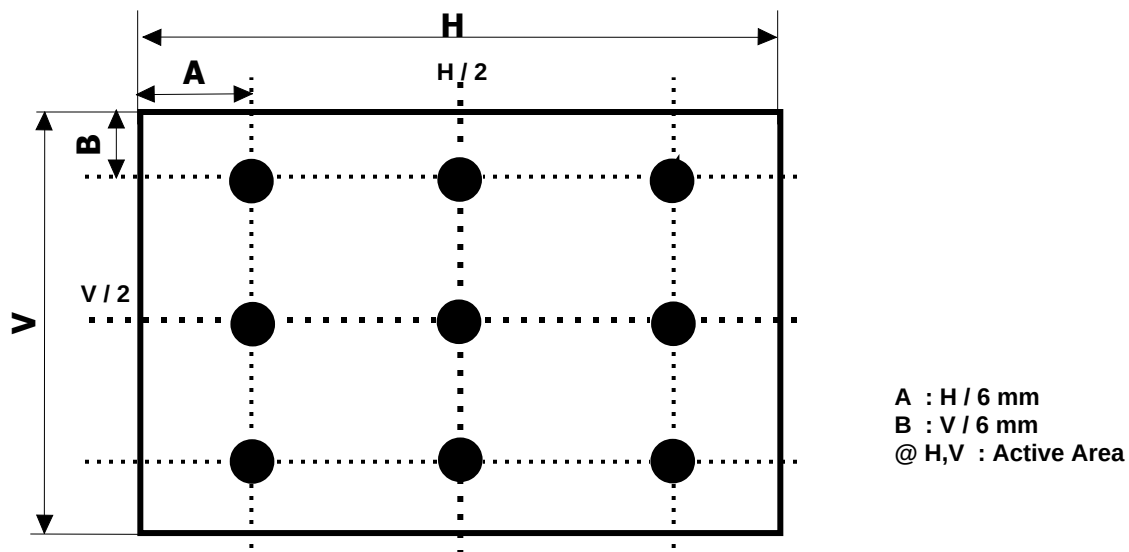

FIG. 2 9 Points for Luminance Measure
2. Surface luminance are determined after the unit has been 'ON and 1 Hour after lighting the backlight in a dark environment at 25±2°C. Surface luminance is the luminance value at center 1-point across the LCD surface 50cm from the surface with all pixels displaying white. For more information see the FIG. 2.
For more information, see the FIG. 2.